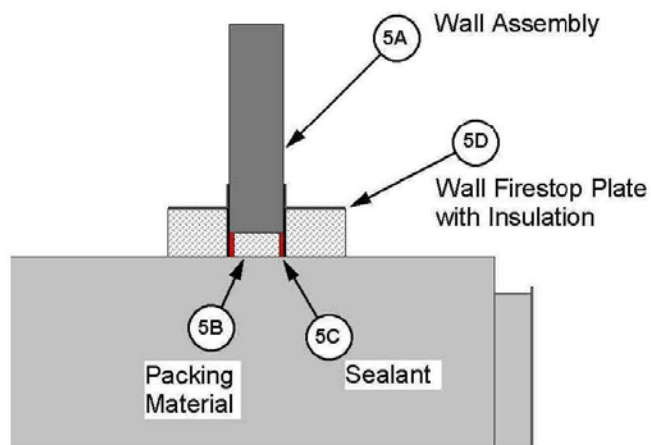

Figure 7. Wall Firestop
5. **WALL PENETRATION FIRESTOP:** When required to penetrate a fire-rated wall assembly, install the firestop system described in Items 5A to 5D (reference Figure 7).